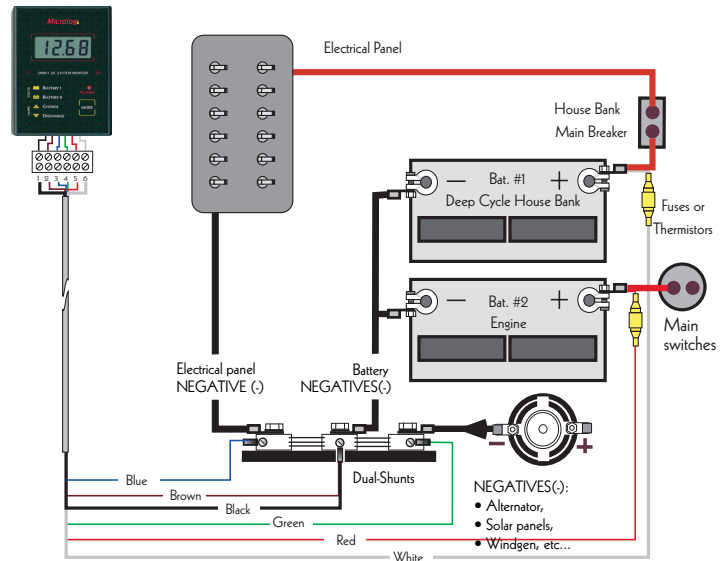

Figure 5: Installation for SMALL (4 cylinders and less) engines ONLY
Figure 5 show the best installation diagram if you have Alternator (s) Negative (s) (-) Output(s) ISOLATED from the Engine (s) Mass.
If it is not possible to have a separate Negative (-) Output (s) from the alternator (s), you can use the Figure 5 Installation for small Engines with 4 cylinders and less, only, where you have Alternator Negative (-) Output connected to the Engine Mass. You install as in following steps except you will monitor alternator output through the shunt, installed inline with the Black Engine Mass Cable.
- You may have equipment (s) negative (-) (s) which are not connected to the Distribution Panel discharge shunt but rather on the Engine mass, boat keel or hull or RV frame instead. All the measured current must pass through the Charge and Discharge Shunts in line with the Negative Battery Wiring. The slightest leak between the alternator, chargers NEGATIVES or engine mass, connected to the charge shunt, and any discharging devices can cause errors or falsify readings of the separate charging or discharging circuits. It is therefore very important to have wiring connected as in Figure 5 or 6.